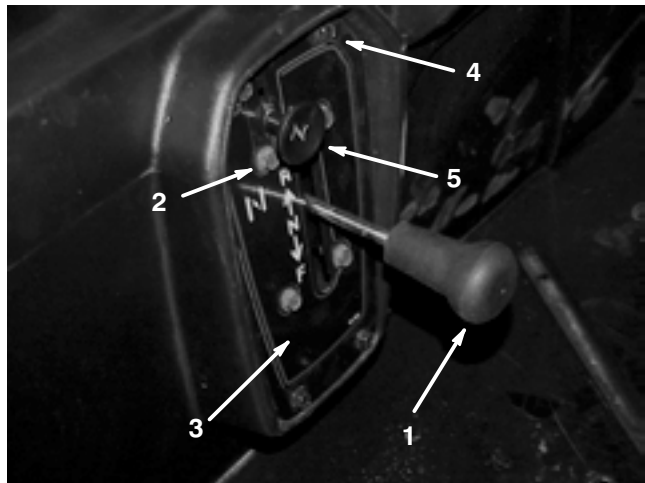

Figure 14
3. Unscrew knob from the shift lever. Remove four short cap screws securing the shift plate to the shift bracket (not shown) (Fig. 14).
4. Remove four long cap screws securing the shift plate to the seat base. Separate shift bracket from the choke cable and seat base (Fig. 14).
4. Secure shift plate to the shift bracket (not shown) with four short cap screws. Screw knob to the shift lever (Fig. 14).
5. Position choke cable and shift plate with shift bracket to the seat base. Secure shift plate to seat base with 4 long cap screws (Fig. 14).